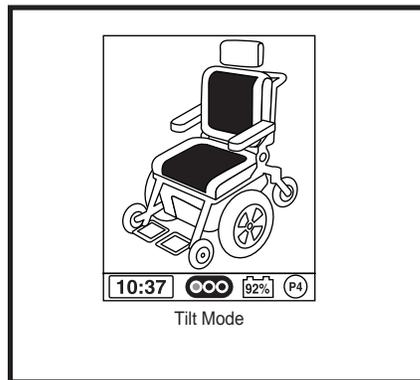

Figure 9. Q-Logic Actuator Indicator
3. Push the joystick to the right to cycle through the available actuators until the seat and back are illuminated on the actuator indicator. See figure 9.